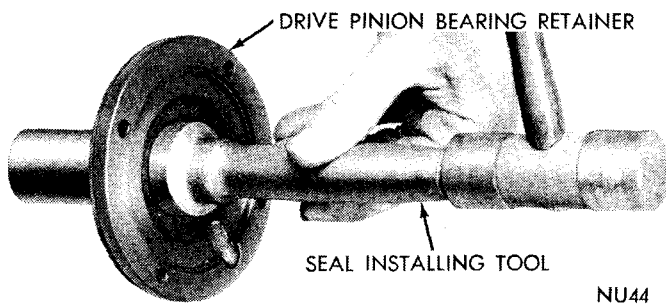

Fig. 38—Installing Seal—Drive Pinion Bearing Retainer
(31) Install the outer snap ring on the drive pinion bearing and tap the assembly back until the snap ring contacts case.
(32) Using Tool C-3789 (Fig. 38), install a new oil seal in retainer bore. Position main drive pinion